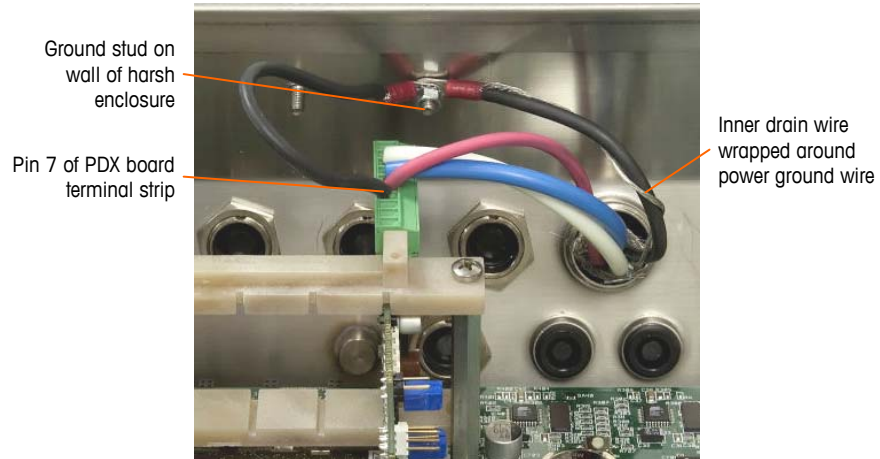

Figure 2-52: PDX Home Run Power Ground Connection, Harsh
- b. Next, twist the home run cable's inner drain wire together with the core power ground wire and make a connection to the same ground stud using another ring terminal as shown in Figure 2-52.